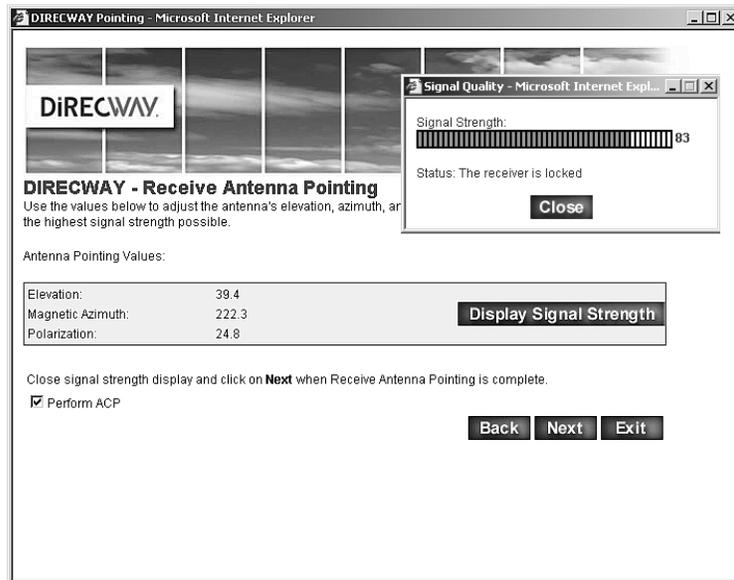

Figure 26: Receive pointing
12. Click **Display Signal Strength** on the Receive Antenna Pointing screen shown in Figure 26 to open the Signal Quality window.